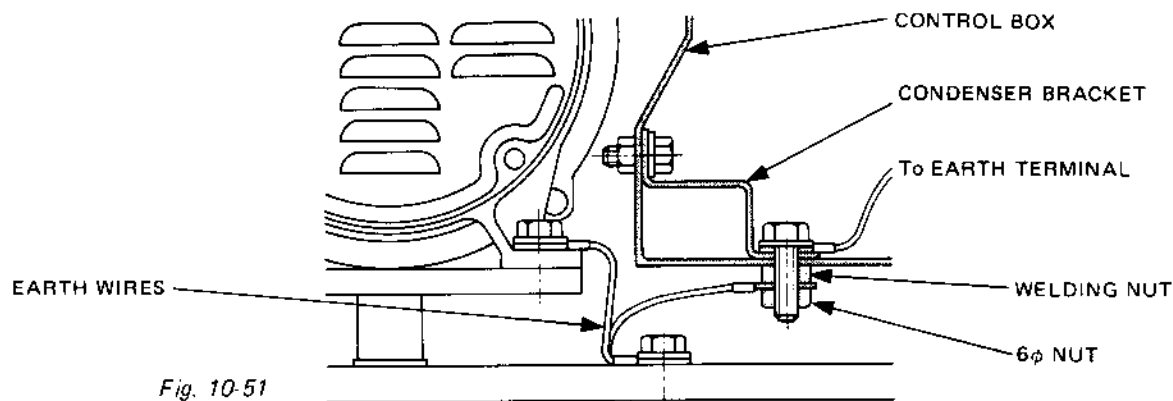

Fig. 10-51
- (2) Install regulator, oil sensor unit, condensers, and diode rectifier into the control box.
- (3) Connect the wires of control panel components and control box. Fasten the earth wires to the rear of the control box using a 6 ϕ nut to the bolt which fixes the condenser bracket to the inside of the control box. (See Fig. 10-51.)
- (4) Attach the control panel to the control box.